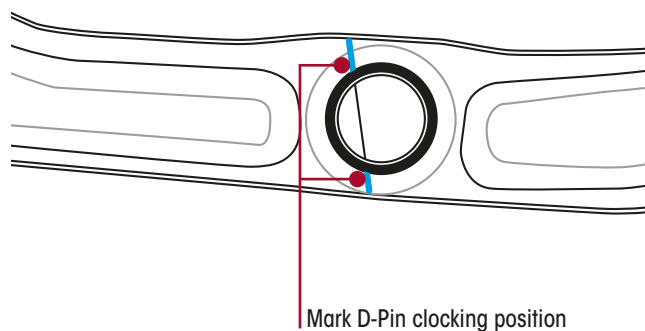
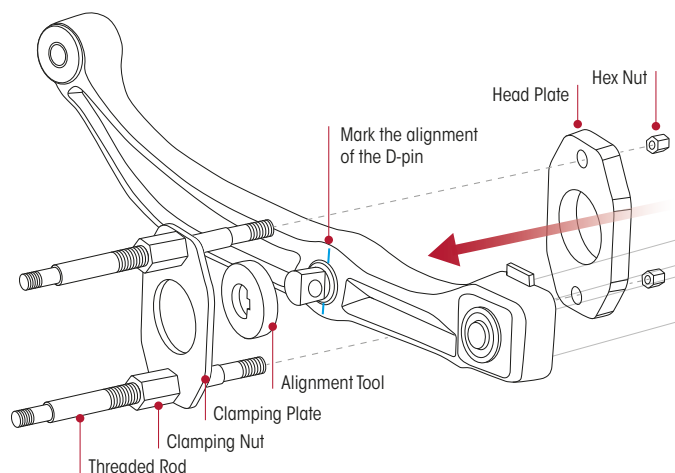

Figure 68: Mark Original D-Pin Clocking Position (Angle)
Figure 69: Install Alignment Tool & Clamping Plate
1. Mark the support beam to show the alignment of the existing D-pin. Install the alignment tool over the D-pin and place the clamping plate over the alignment tool. Refer Figure 69 and Figure 68.